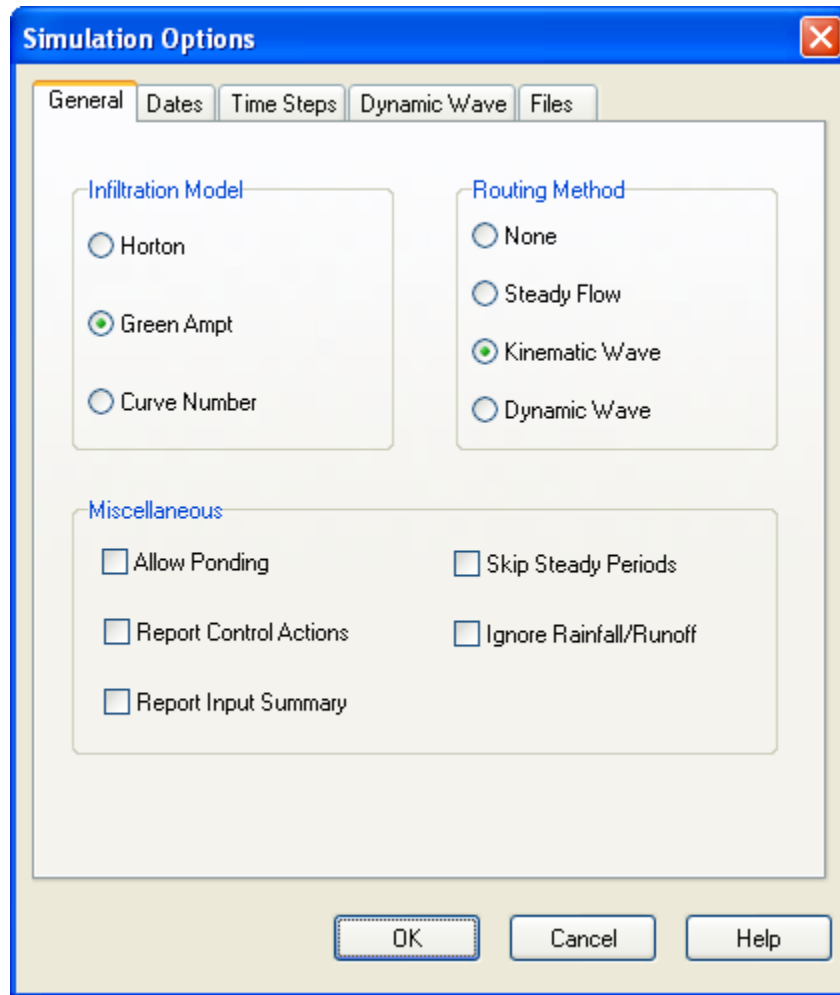

Figure 2-9. Simulation Options dialog.
2. On the General page of the Simulation Options dialog that appears (see Figure 2-9), select Kinematic Wave as the flow routing method. The infiltration method should already be set to Green-Ampt. The Allow Ponding option should be unchecked.